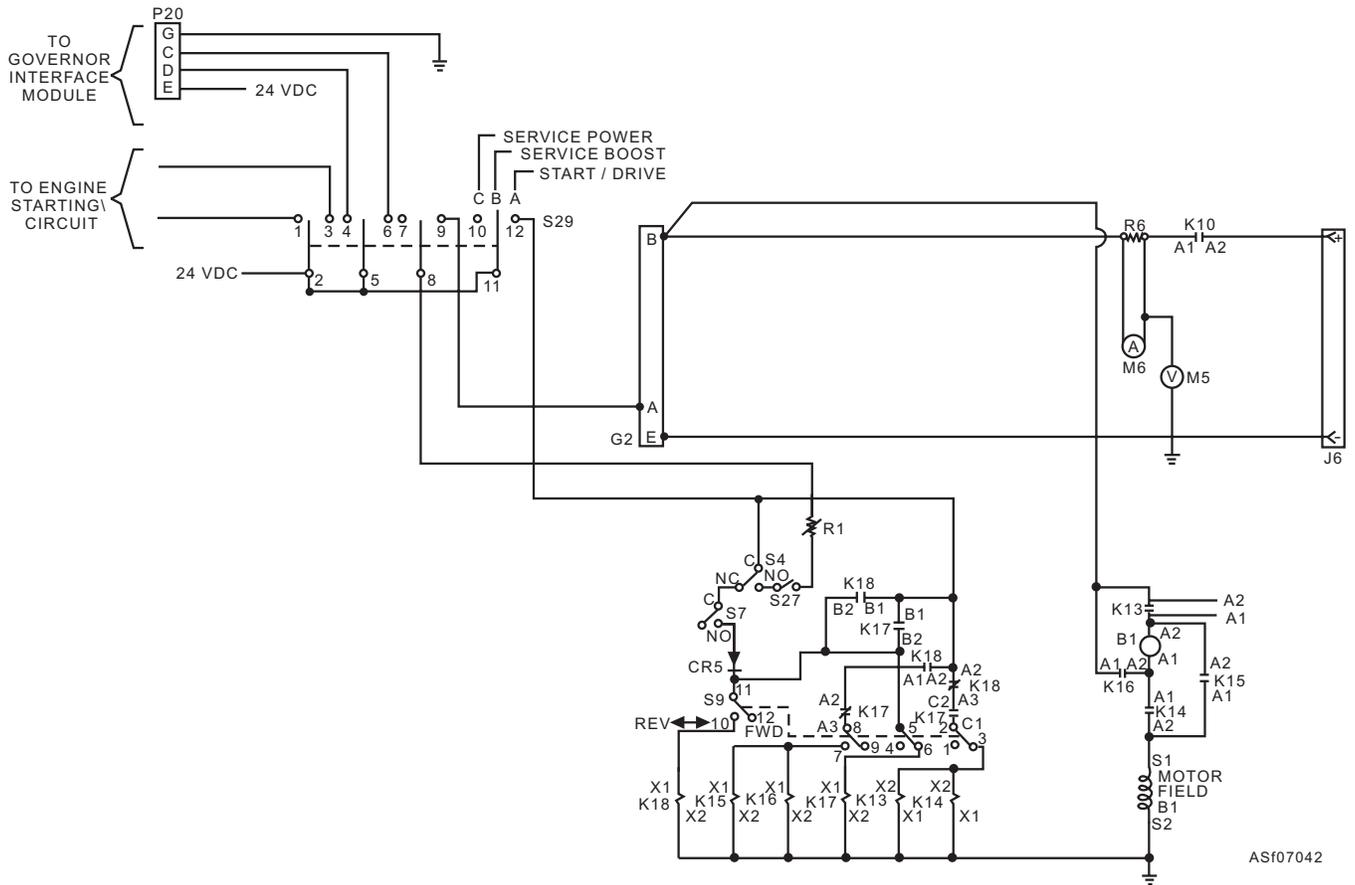

Figure 7-42.—Vehicle propulsion system.
**VEHICLE PROPULSION CIRCUIT.**—For the discussion of the vehicle propulsion circuit, refer to figure 7-42, a simplified schematic of the propulsion circuit.
Control of the MEPP speed during propulsion is the same for forward or reverse operation. Safety switch S27 (fig. 7-42) must be held closed and the accelerator pedal depressed for motion. With the dc voltage regulator VR2 (fig. 7-43) isolated from the propulsion circuit, a control or biasing voltage must be induced across the field of the dc generator to permit generator output. This is accomplished by depressing the accelerator pedal and closing limit switch S4 (fig. 7-42). Battery voltage, reduced by speed regulating resistor R1 (fig. 7-42) is induced across the dc generator field through switch S29 (fig. 7-43).